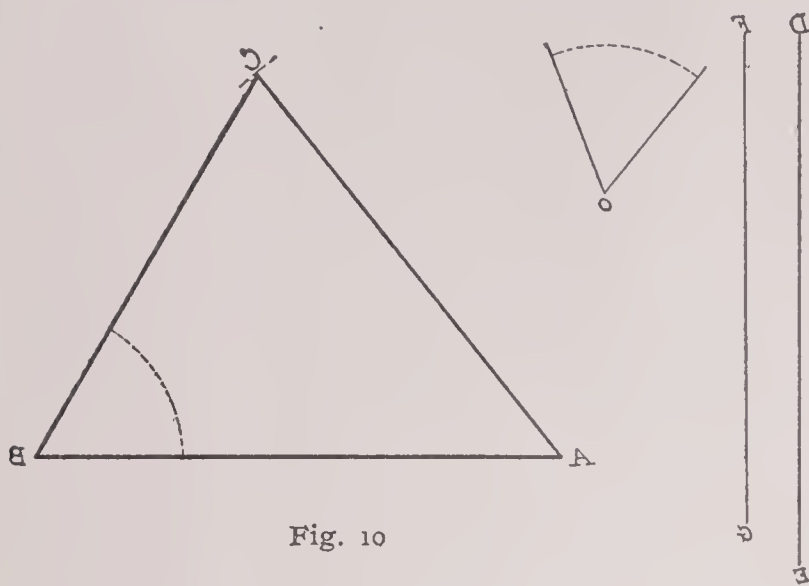

Fig. 10
10. Having given two sides and the included angle of a triangle, to construct the triangle (Fig. 10):